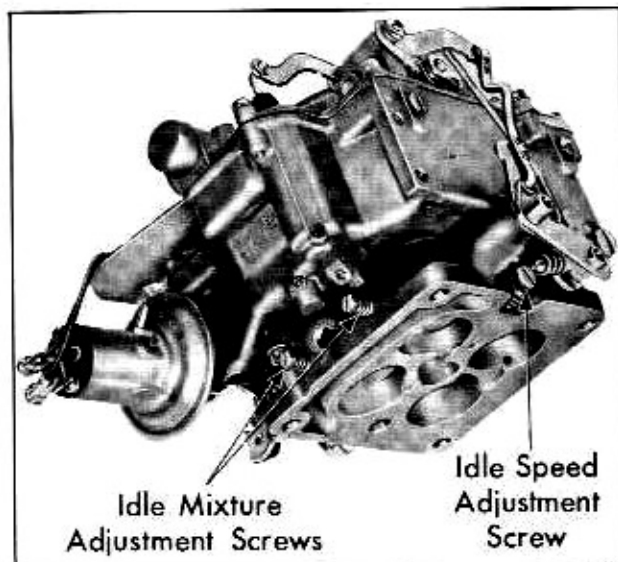

Fig. 12-3 Adjustment Screws
4. Back each idle mixture screw two turns off its seat and back each idle by-pass air screw three turns off its seat. Refer to Fig. 12-3.